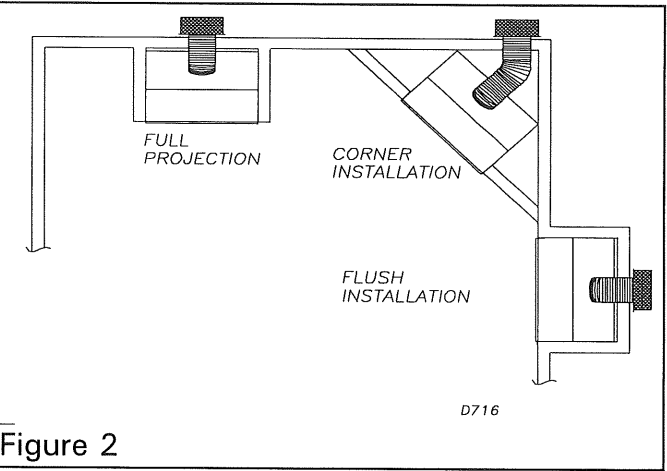

Figure 2
Figure 2 shows a few common locations.
- 1) Install pipe to fireplace collar adapter located on back of the unit at a 45 degree angle. Start with 90 degree or 45 degree elbow by sliding it over the collar adapter on fireplace. Twist-lock for proper installation (see Figure 2).